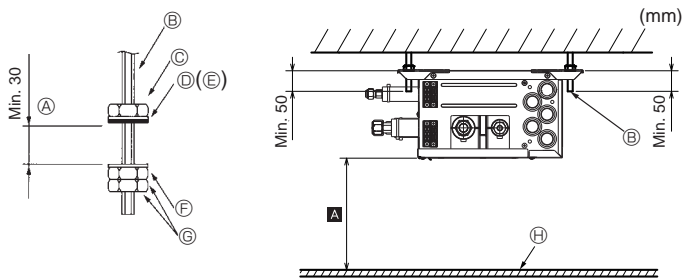

Fig. 6-1
- (2) Fit the washers (①, ②) and nuts (procure locally) to the suspension bolts. (Fig. 6-1)
- (3) Hang the unit on the suspension bolts.
- (4) Fully tighten the nuts (check ceiling height).
- (5) Use a level to adjust the branch box to the horizontal.